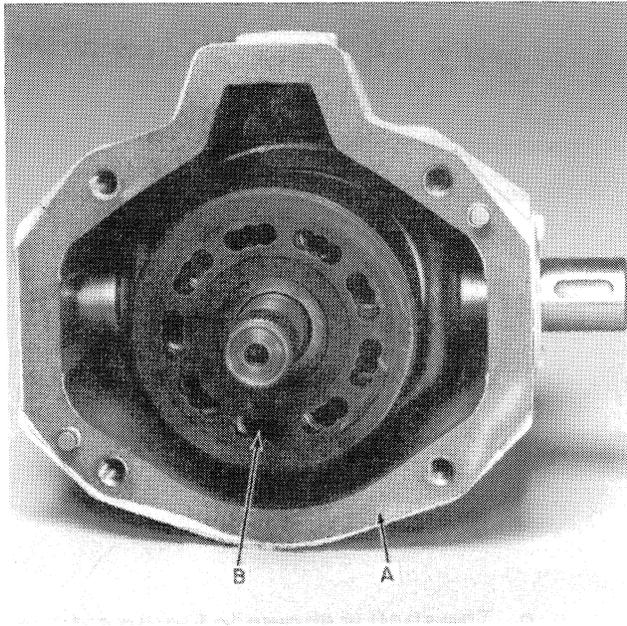

FIGURE 4-6
6. Hold the rotating piston block, B, Figure 4-6, in one hand and tilt the open end of the housing down. Turn the rotating piston block and pull it out as a complete unit without scratching or burring the parts.